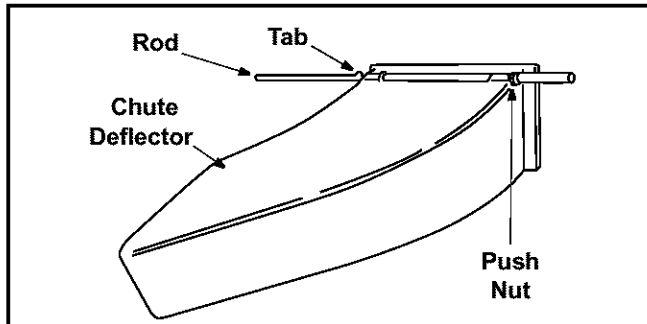

Figure 9
- Slide the rod into the upper edge of the chute deflector so the tab on the rod is toward the left side of the chute deflector. When assembled correctly, the rod will extend further to the left side than the right side. See Figure 9.